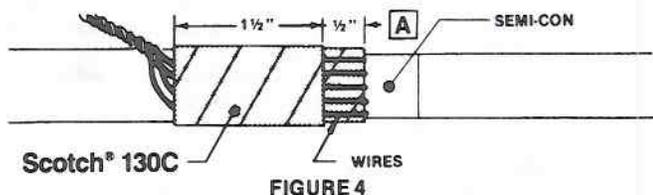

FIGURE 4
5. Beginning 1/2" on exposed wires, tightly wrap one half-lapped layer of 130C Tape over wires 1-1/2". See Figure 4.